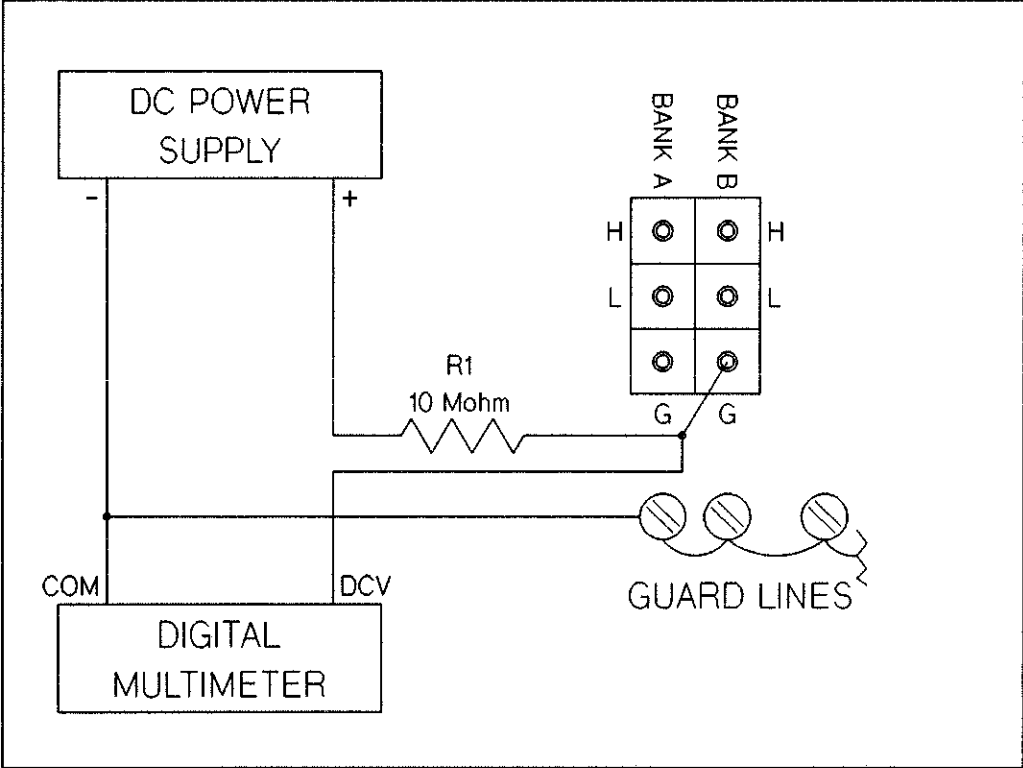

Figure 8-20 HP 44705A/H Bank B GUARD to Common DC Isolation
23. Connect the test circuit between the Bank B GUARD common test point and the shorted GUARD lines of the test fixture as shown in Figure 8-20.